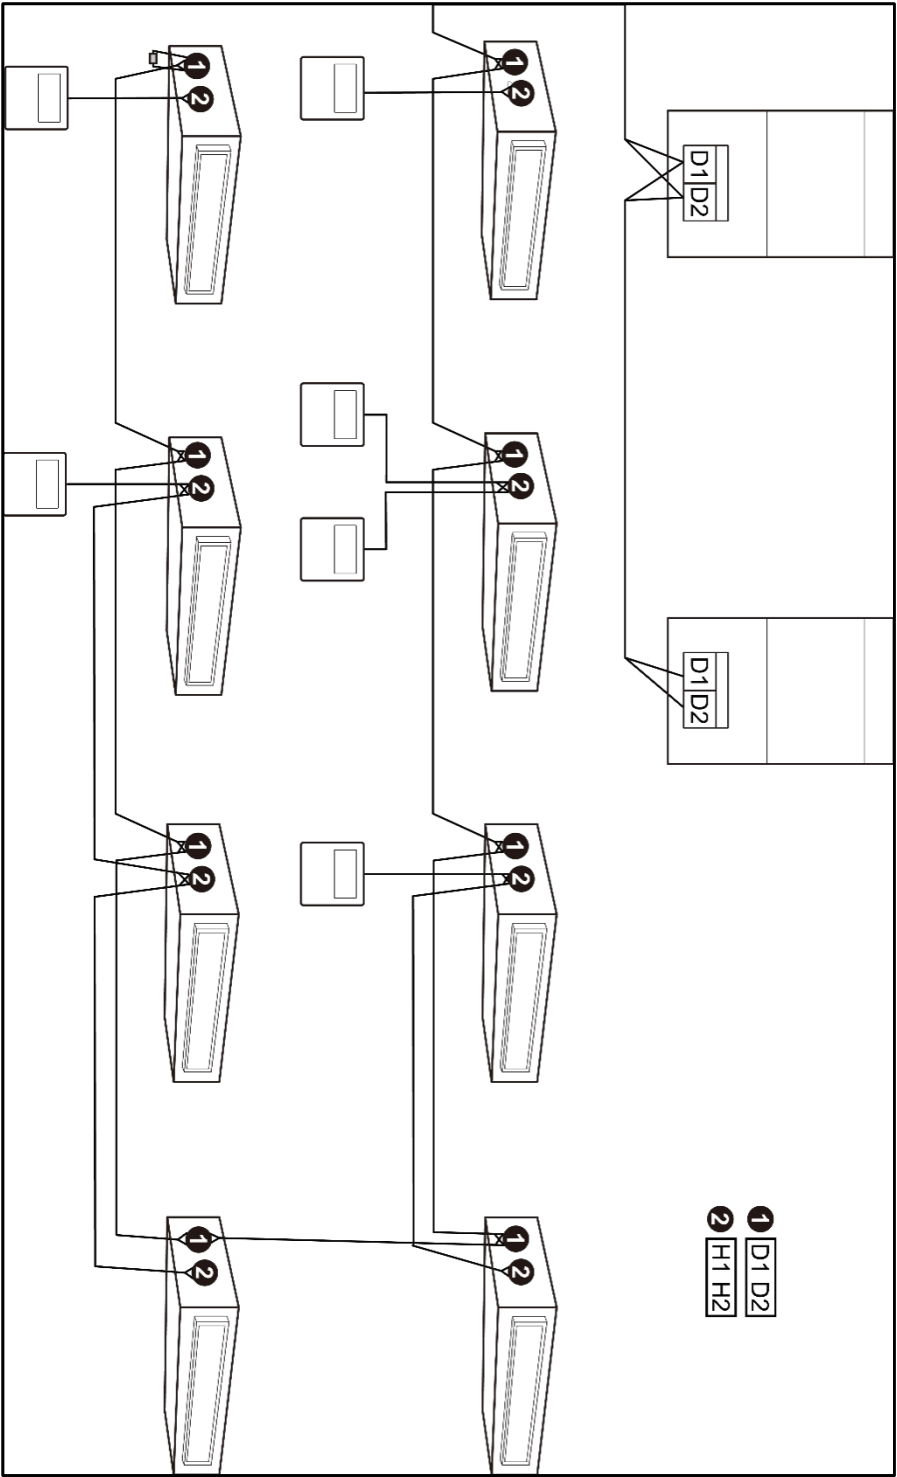

Fig. 5.5
- 4 A wired controller can control up to 16 indoor units at the same time. (As shown in Fig. 5.5).